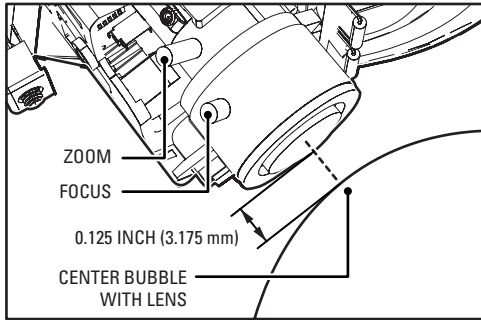

Figure 10. Adjusting the Focus
2. Position the inverted dome approximately 0.125 inch (3.175 mm) from the front of the lens. Make sure that the lens and the dome are centered (refer to Figure 10).